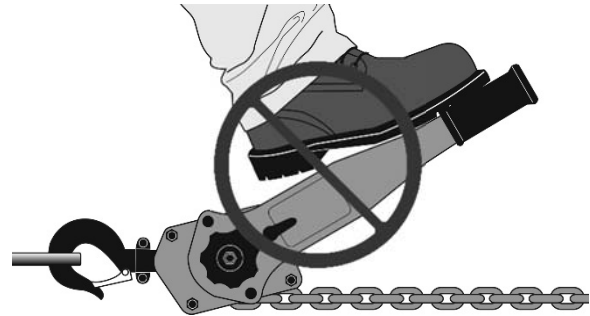

Figure 8
- Do not use a foot to apply pressure to the lever (Figure 8).